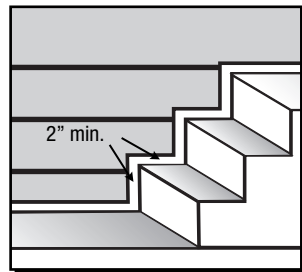

FIGURE 8
- Maintain a 2" minimum clearance between James Hardie® products and paths, steps and driveways (fig. 8).